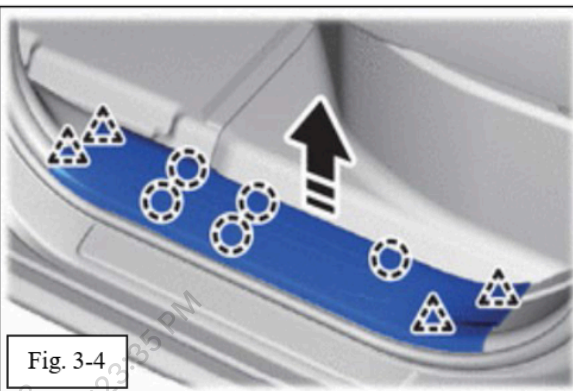

Fig. 3-4
- (e) Remove the rear LH and RH door scuff plates (Fig. 3-4).